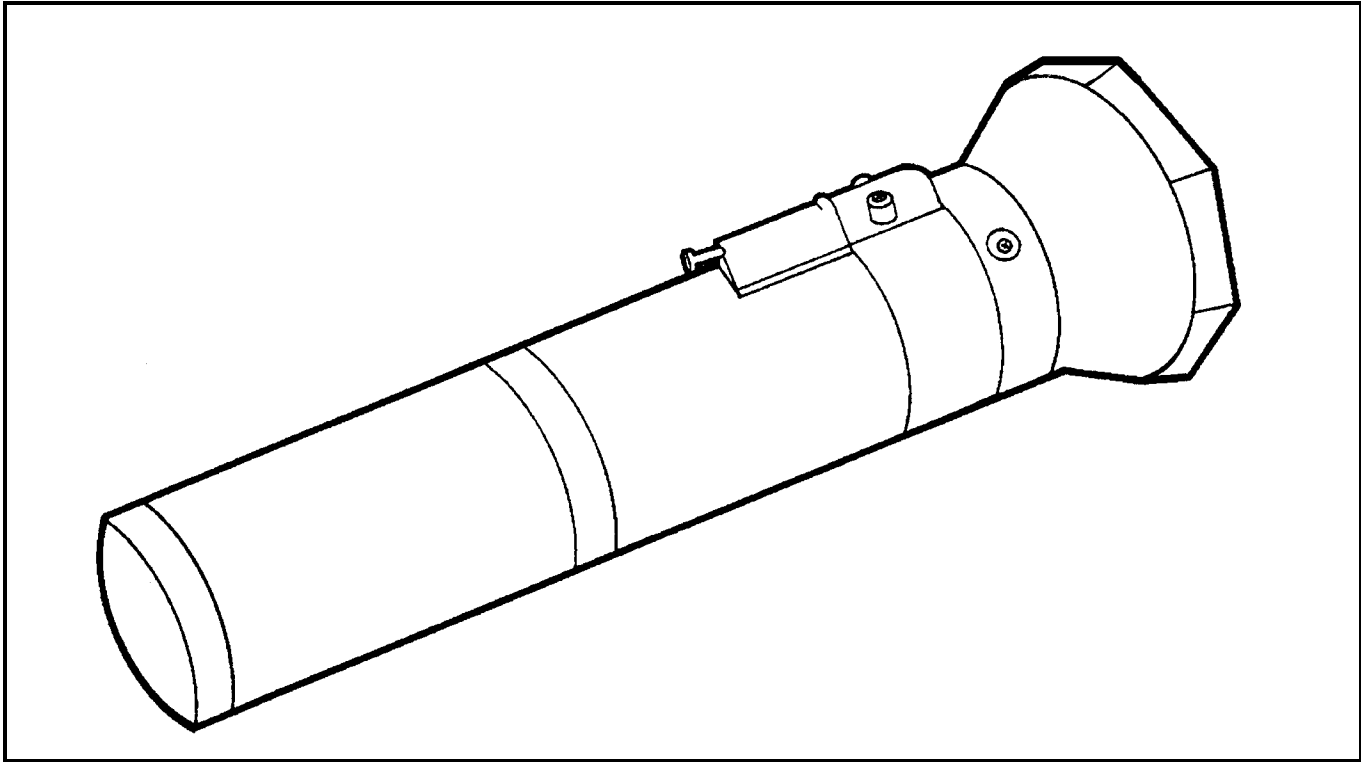

Figure 5 Nonel Shock Tube and Squib Assembly
- g. Attach the squib end of the "Nonel" shock tube assembly to the launch tube percussion mechanism (See Figure 5).